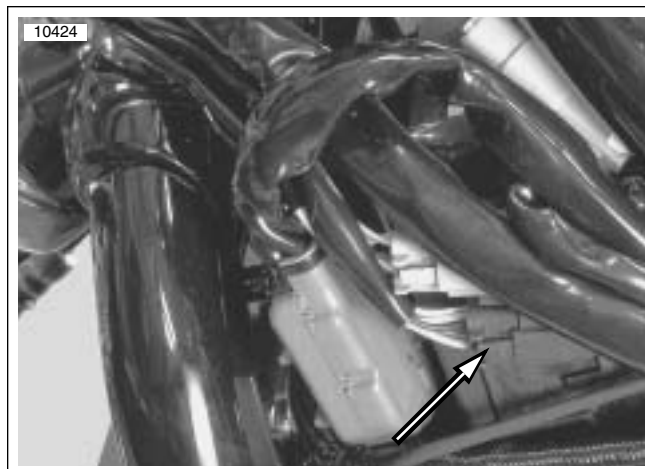

Figure 8-32. Right Switch Housing Connector [22] (typical) (VRSCA shown)
2. See Figure 8-32. If removing the switch housing and wire harness, remove the left side cover and locate the right switch housing connector [22].